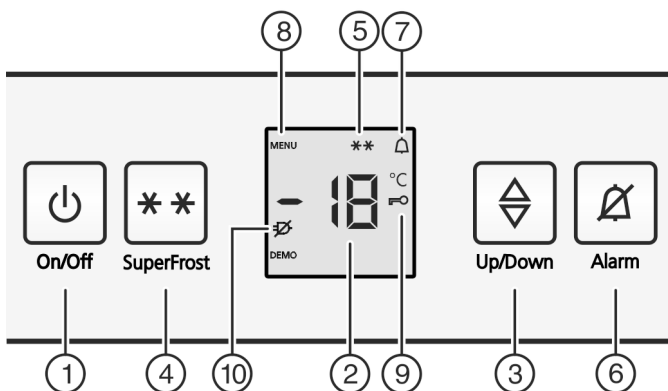

Fig. 2
- ▶ Press the On/Off button Fig. 2 (1).
- ▶ Activate setting mode: press the SuperFrost button Fig. 2 (4) for approx. 5 seconds.
- ▷ The Menu symbol Fig. 2 (8) is shown on the display.
- ▶ Briefly confirm with the SuperFrost button, Fig. 2 (4).
- ▷ The child lock symbol Fig. 2 (9), lights up on the display.
- ▶ Briefly press the On/Off button Fig. 2 (1).
- ▷ The child lock symbol Fig. 2 (9) goes out.
▶ Press alarm button *Fig. 2 (6)*.
The temperature display and the alarm symbol *Fig. 2 (7)* flash at the same time.
The audible alarm is automatically silenced, the alarm symbol *Fig. 2 (7)* goes out and the temperature display stops flashing when the temperature is sufficiently cold again.